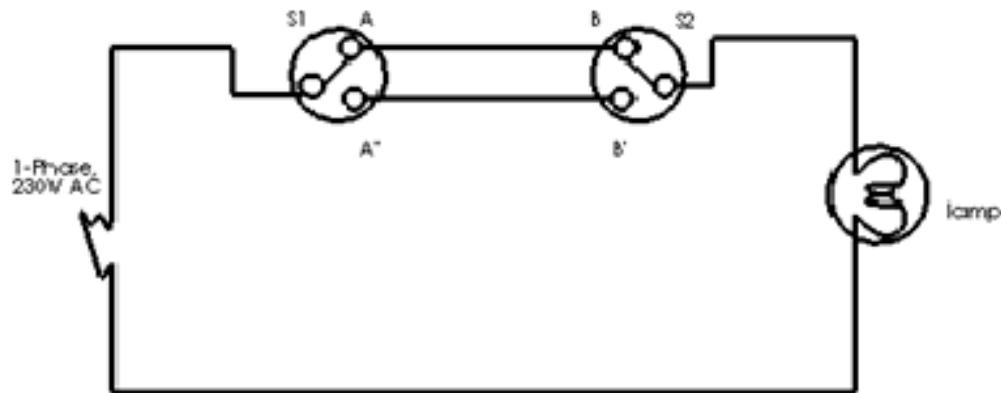

Figure 12.1: Circuit diagram of Two way control of lamp
- 12.1 Draw the electrical circuit diagram of a two-way control of lamp as shown in Figure 12.1